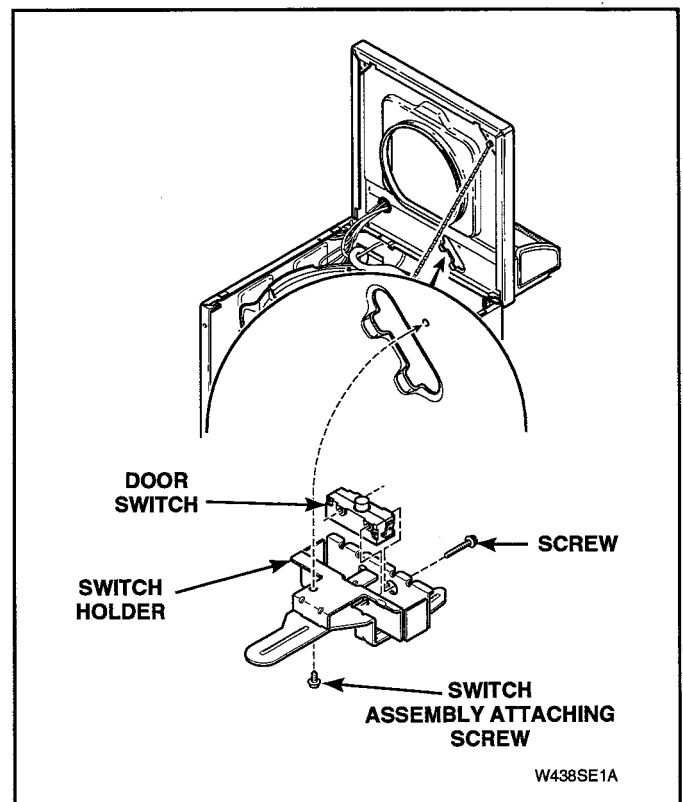

Figure 5-24
- Remove screw holding door switch assembly to underside of cabinet top. See Figure 5-24.
- Remove two screws holding switch to switch holder. See Figure 5-24.